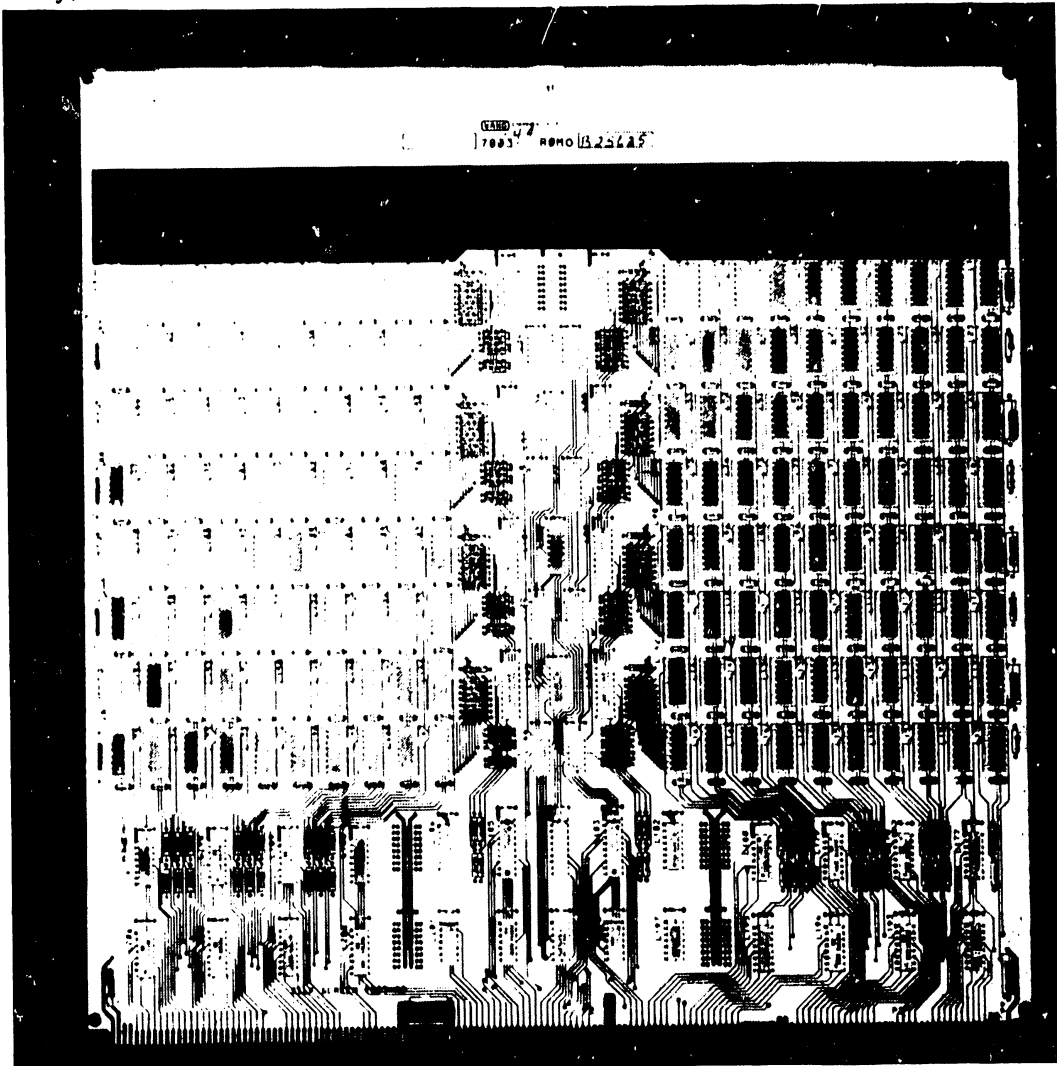

Figure 5-16. 210-7803 1MB Main Memory Board
1. Remove the Main Memory boards (figures 5-16, 5-17, and 5-18) from Motherboard slot(s) 6 and/or 7 as described in step 5.3.6.3.1.